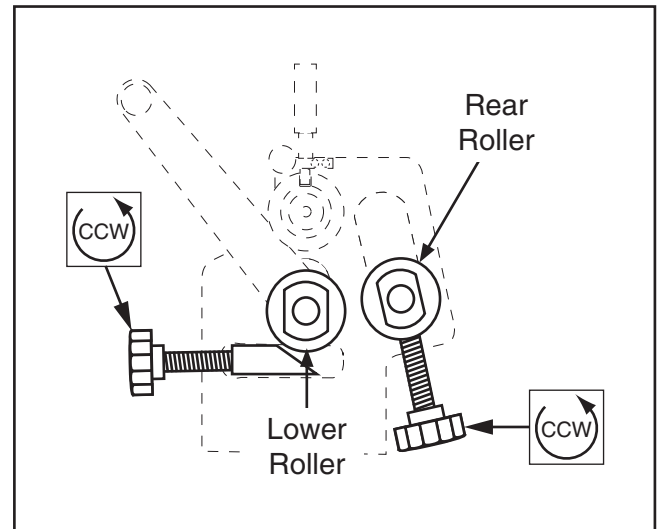

Figure 49. Slip roll preparation.
12. Turn thickness adjustment knobs to adjust lower roller to approximately $\frac{1}{4}$ " below top roller (see **Figure 49**).
13. Lower rear roller to lowest position (see **Figure 49**).